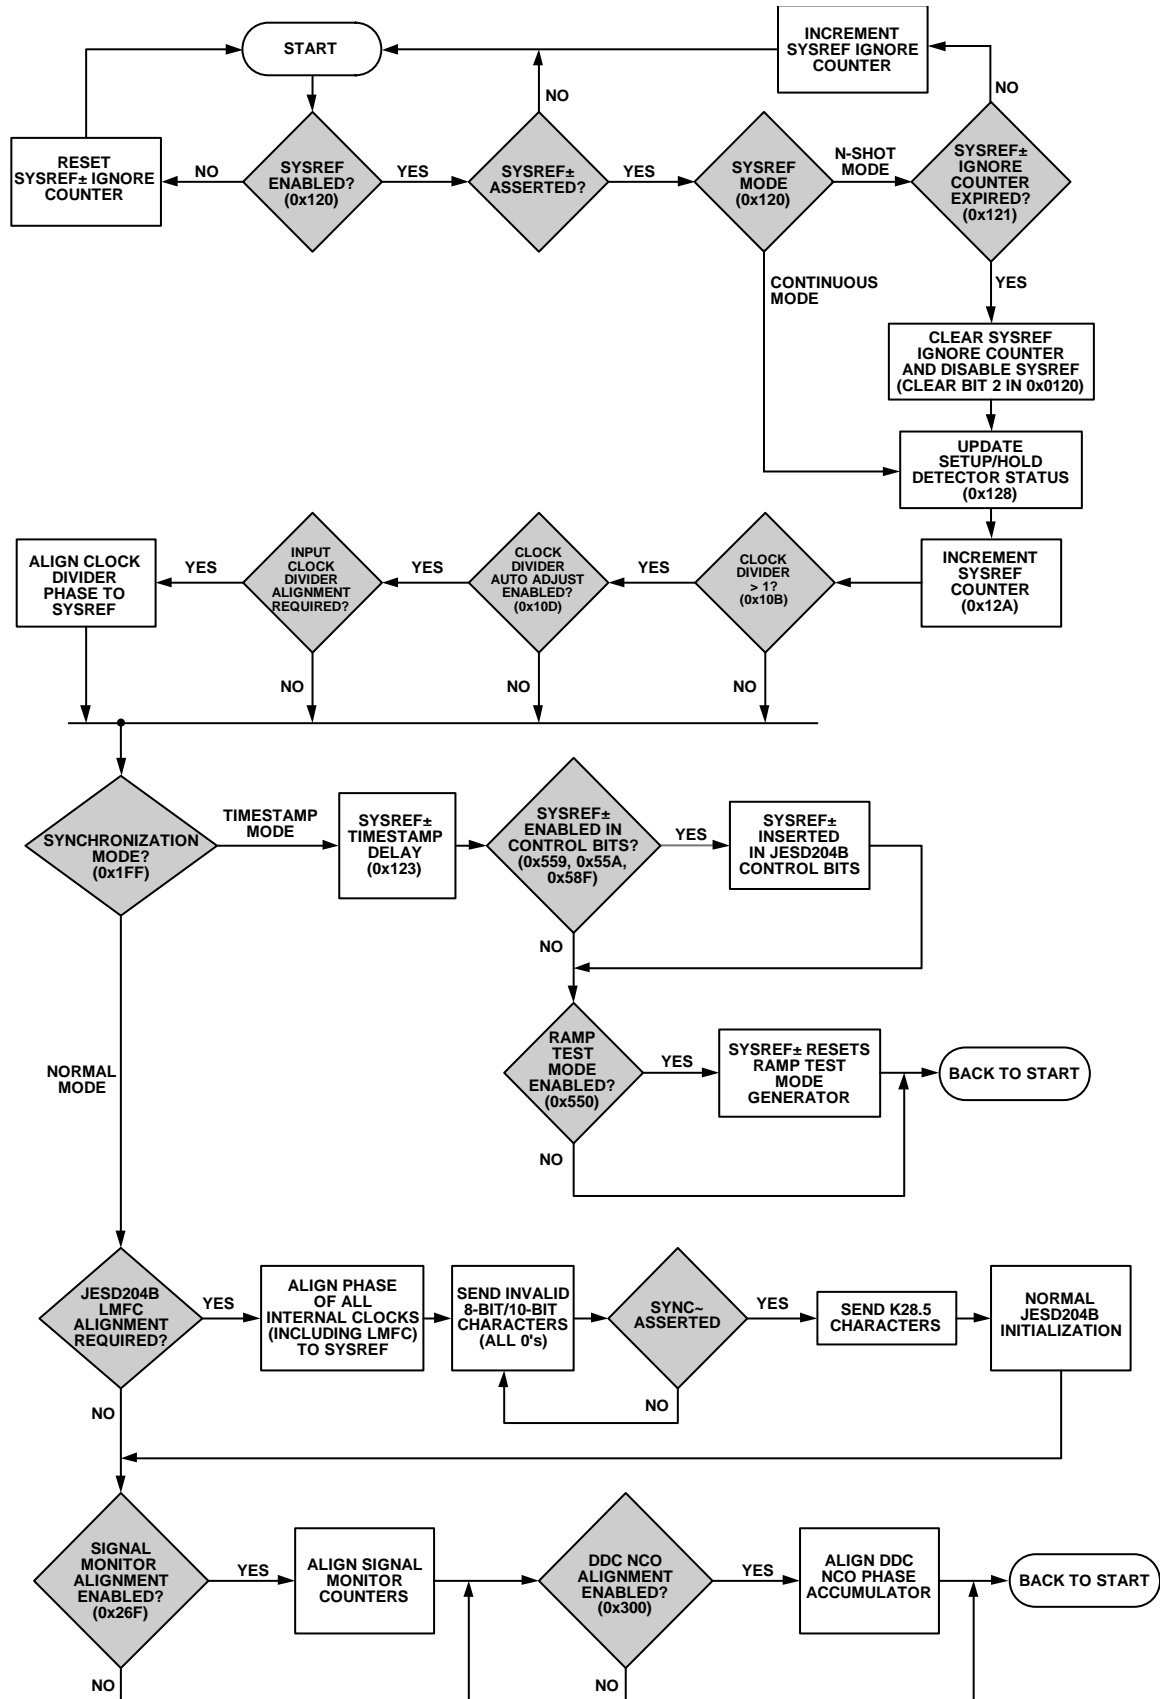

Figure 175. SYSREF± Capture Scenarios and Multichip Synchronization
The flowchart shown in Figure 175 describes the internal mechanism for multichip synchronization in the AD9680. There are two methods by which multichip synchronization can take place, as determined by the chip synchronization mode bit (Register 0x1FF, Bit 0). Each method involves different applications of the SYSREF± signal.
The default state of the chip synchronization mode bit is 0, which configures the AD9680 for normal chip synchronization. The JESD204B standard specifies the use of SYSREF± to provide deterministic latency within a single link. This same concept, when applied to a system with multiple converters and logic devices, can also provide multichip synchronization. In Figure 175, this is referred to as normal mode. Following the process outlined in the flowchart ensures that the AD9680 is configured appropriately. Consult the logic devices user intellectual property (IP) guide to ensure that the JESD204B receivers are configured appropriately.